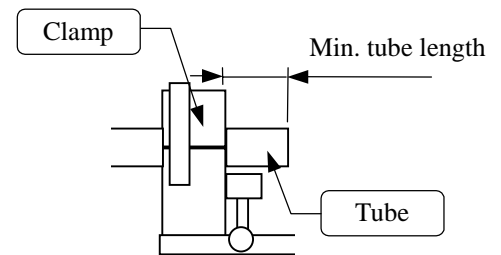

Figure 11. Minimum tube length
- Install the tube holder in the clamp, set the tube in the tube holder so that the minimum tube length is ensured, and then push down the clamp lever to clamp the tube (Refer to Table 7 for applicable tube holders and Table 6 and Figure 11 for minimum tube length).